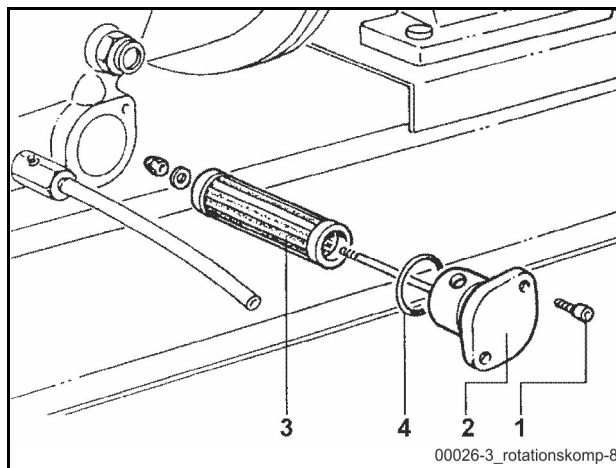

Fig. 219 Oil filter
- Loosen the screws **(1)** on the filter cover **(2)** (**Fig. 219**).